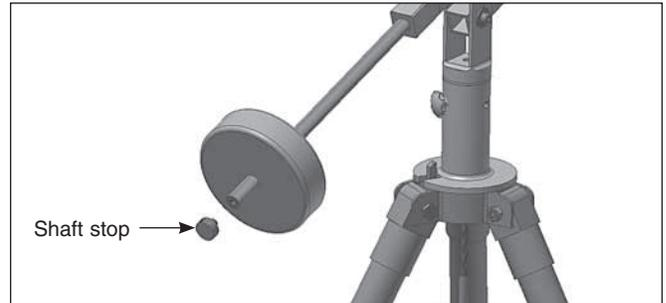

Fig. 1.8.
1.8. Install one 11-lb. counterweight on the shaft. Use the counterweight’s lock knob to position the counterweight near the end of the shaft, for now. Then thread the shaft stop safety knob onto the end of the shaft to prevent the counterweight from accidentally slipping off (**Fig. 1.8**).